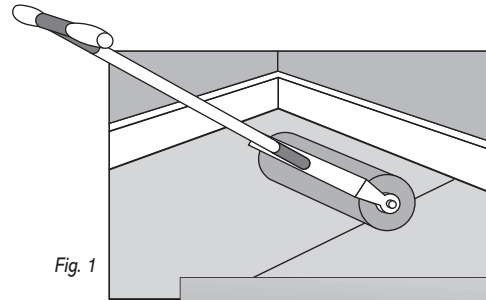

Fig. 1
- Sticking down with a roller (Fig.1) at least two hours after.